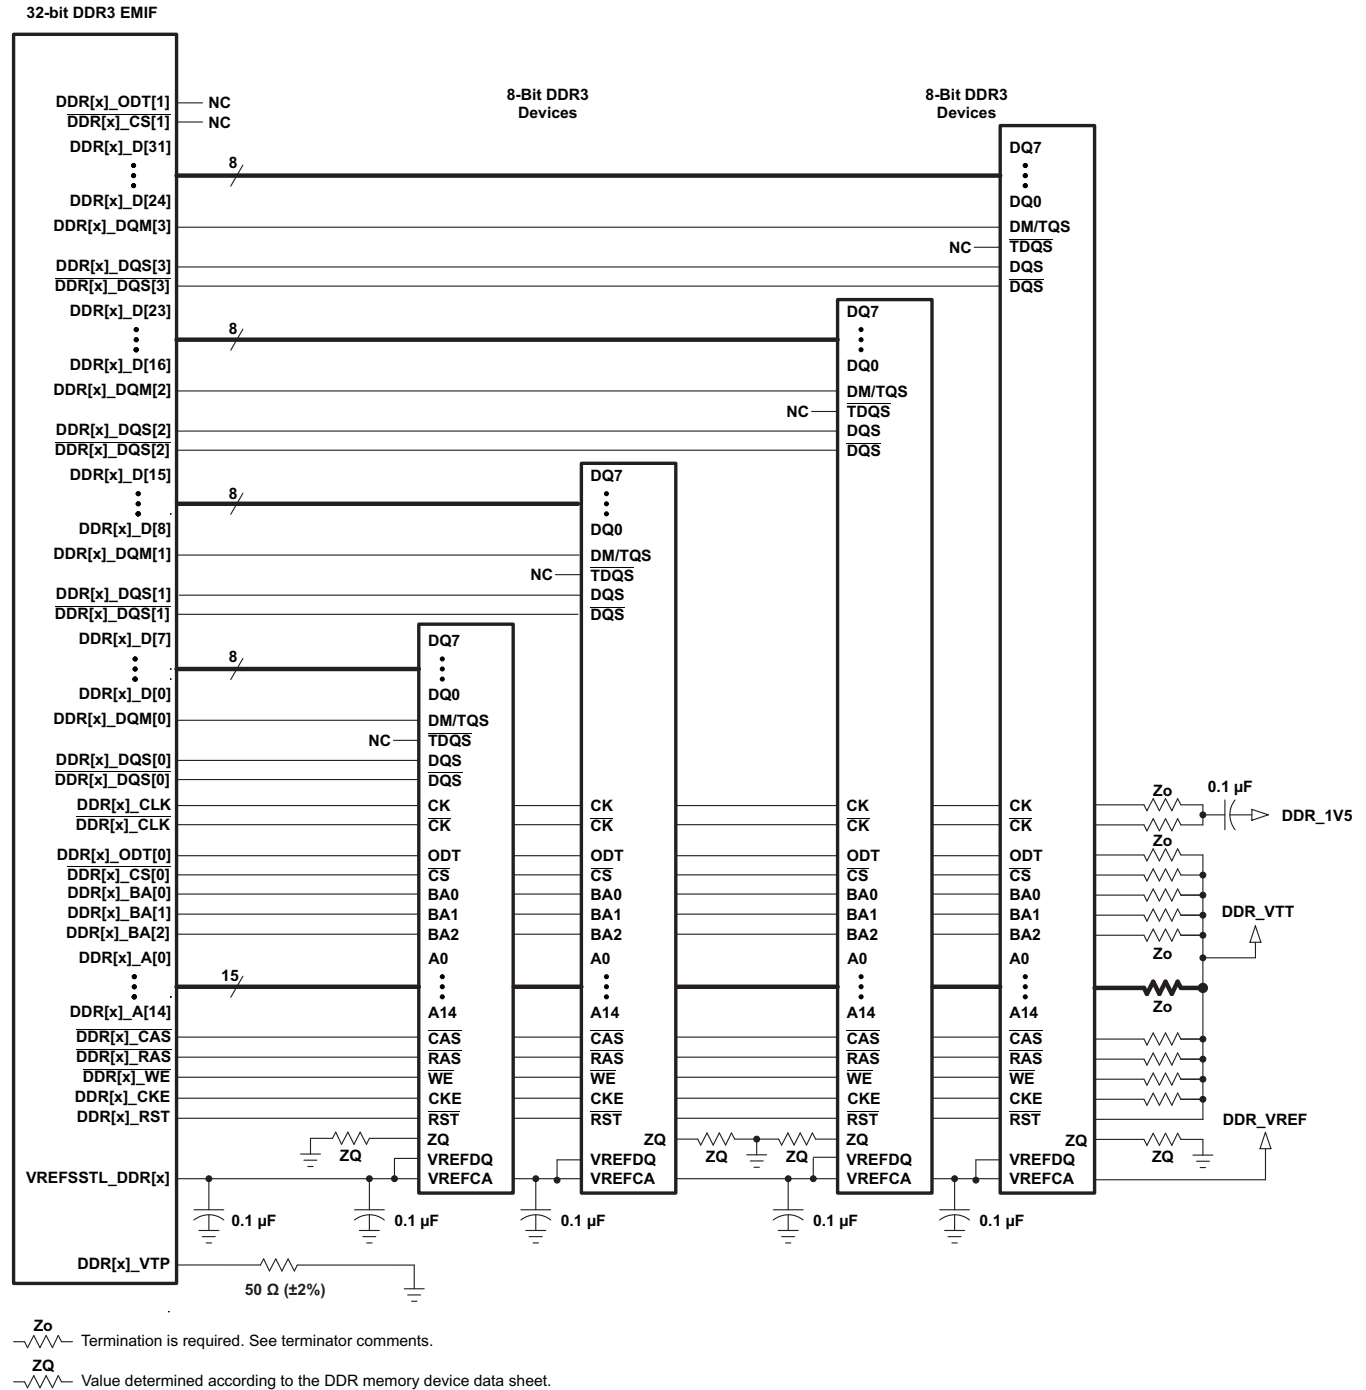

Figure 8-55. 32-Bit, One-Bank DDR3 Interface Schematic Using Four 8-Bit DDR3 Devices
The DDR3 interface schematic varies, depending upon the width of the DDR3 devices used and the width of the bus used (16 or 32 bits). General connectivity is straightforward and very similar. 16-bit DDR devices look like two 8-bit devices. Figure 8-54 and Figure 8-55 show the schematic connections for 32-bit interfaces using x16 devices.
Note that the 16-bit wide interface schematic is practically identical to the 32-bit interface (see Figure 8-54 and Figure 8-55); only the high-word DDR memories are removed and the unused DQS inputs are tied off. The processor $\overline{\text{DDR}}[\text{x_DQS}[2]$ and $\overline{\text{DDR}}[\text{x_DQS}[3]$ pins should be pulled to the DDR supply via 1-k Ω resistors. Similarly, the $\overline{\text{DDR}}[\text{x_DQS}[2]$ and $\overline{\text{DDR}}[\text{x_DQS}[3]$ pins should be pulled to ground via 1-k Ω resistors.
(1) DDR3 speed grade depends on desired clock rate. Data rate is 2x the clock rate. For DDR3-800, the clock rate is 400 MHz.
(2) DDR3 devices with speed grades up to DDR3-1600 are supported; however, max clock rate will still be limited to 400 MHz as stated in *Switching Characteristics Over Recommended Operating Conditions for DDR3 Memory Controller*.
(3) For valid DDR3 device configurations and device counts, see Section 8.13.4.2.4, Figure 8-54, and Figure 8-55.